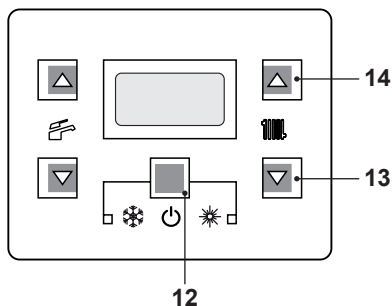
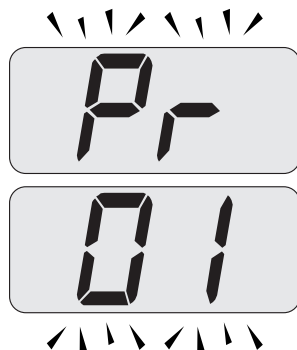
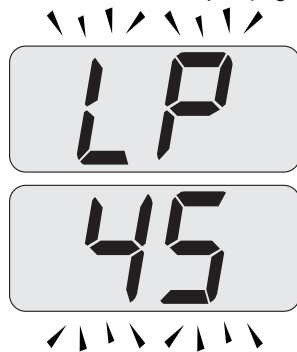
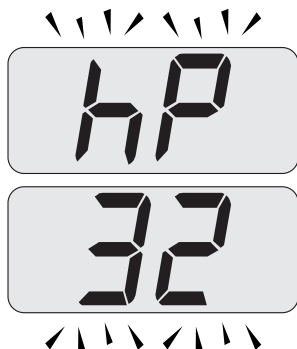

Fig. 10.16
Fig. 10.17
Fig. 10.18
Fig. 10.19
- Enter in "programming mode" by sequentially pressing and holding in keys, 12 - 13 and then 14 (Fig. 10.16) for 10 seconds until the letters **Pr** that alternate with code **01** are displayed on the LCD display, indicating that "parameter 01" (Fig. 10.17) has been activated.
- Press keys 13 and 14 (Fig. 10.16) at the same time until the LCD display displays the letters **LP** that alternate with the heating water temperature value (e.g. **45**), indicating the activation of the "flue sweep function" at minimum output (Fig. 10.18).
- By pressing 14 (Fig. 10.16) it is possible to change power in flue sweep mode: with the letters **hP** on the LCD display which alternate between the heated water temperature (i.e. **32**), we are in the "flue sweep function" at the minimum power during heating (Fig. 10.19).
- Press sequentially keys, 12 - 13 and then 14 (Fig. 10.16) and hold in for 10 seconds to exit the "flue sweep mode" and return to the previously set boiler status (Fig. 10.21).